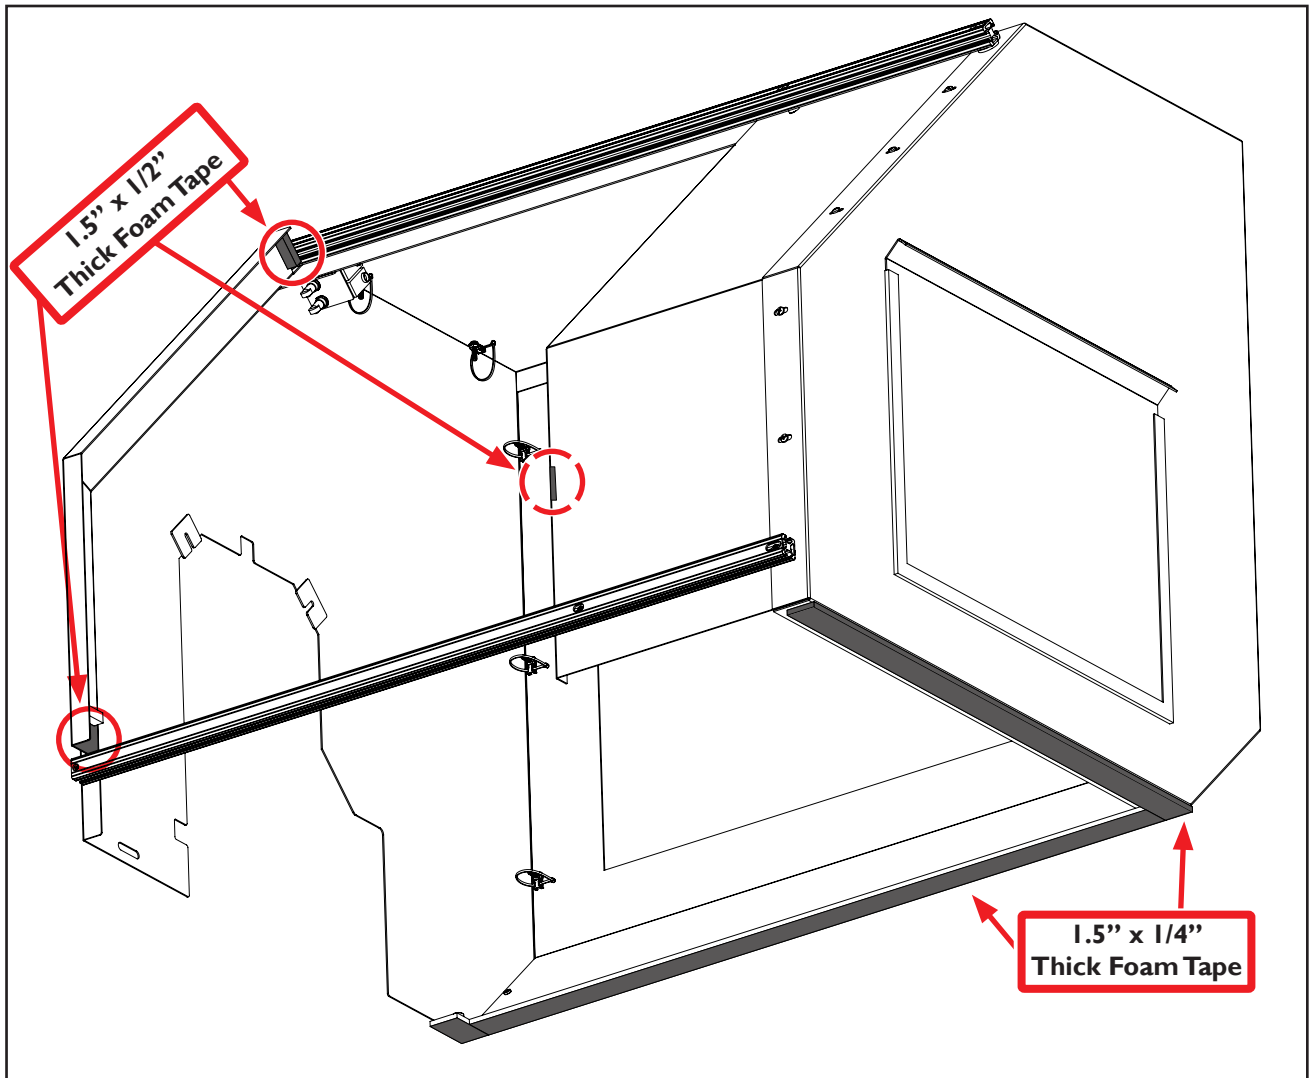

Figure 9
7. Measure, cut, and adhere 1.5" x 1/4" Thick Foam Tape to bottom of enclosure as shown in **Figure 9**.
8. Measure, cut, and adhere 1.5" x 1/2" Thick Foam Tape to door area as shown in **Figure 9**.
9. Measure, cut, and adhere 1.5" x 1/2" Thick Foam Tape to inside flange (not shown) of Front Right Panel (see **Figure 9**).